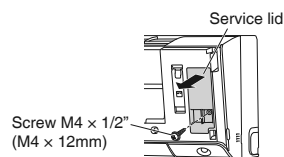

Fig.3
- 6) Remove the service lid screw (1 screw) and remove service lid. (See Fig.3)